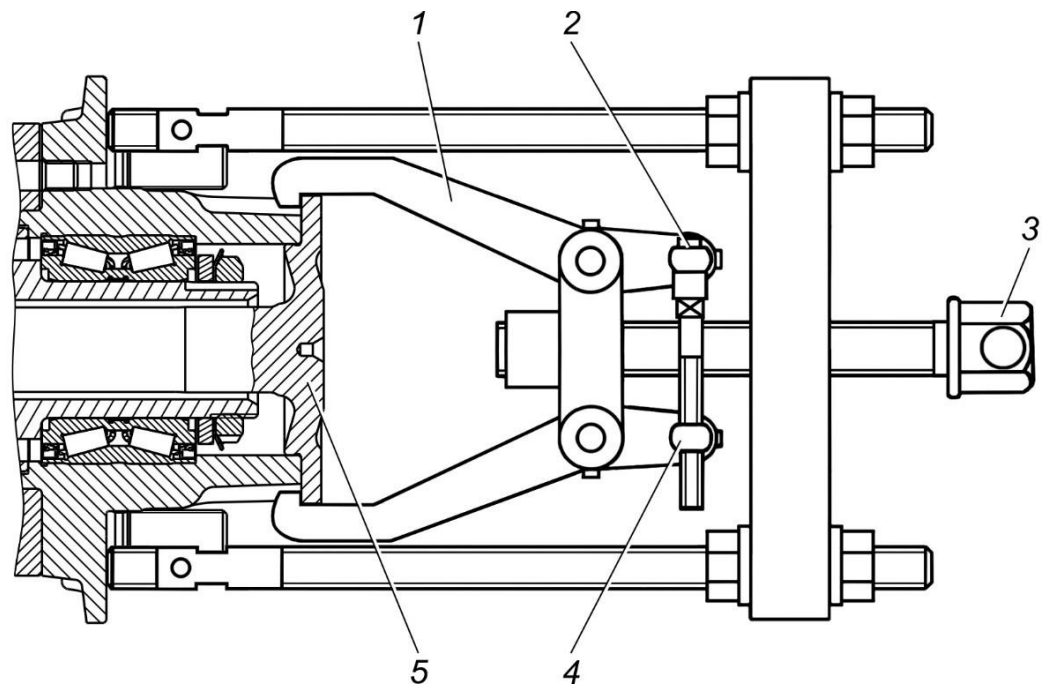

Fig. 3.39. Rear axle shaft removal: 1 – legs; 2 – bolt; 3 – screw; 4 – axle; 5 – axle shaft
- unscrew eight axle shaft mounting bolts per each and remove axle shafts using puller (Fig. 3.39). To make sure that the legs 1 enter the hub recessions, bring legs together to the stop when unscrewing the bolt 2 from the axle 4. By turning screw 3, disengage axle shaft 5 from side gear;